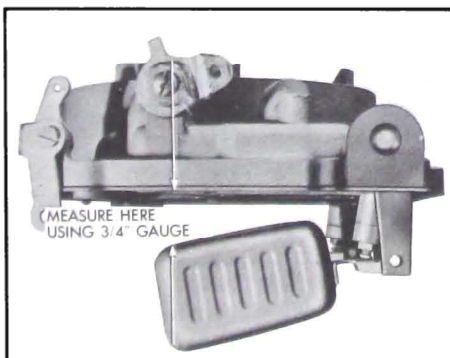

Figure 3-83—Checking Float Drop
11. Adjust Float Drop. With air horn held in upright position, measure vertical distance from air horn gasket to outer end of each float using a scale. Bend float arm tang as required to obtain 3/4" measurement. See Figure 3-83.